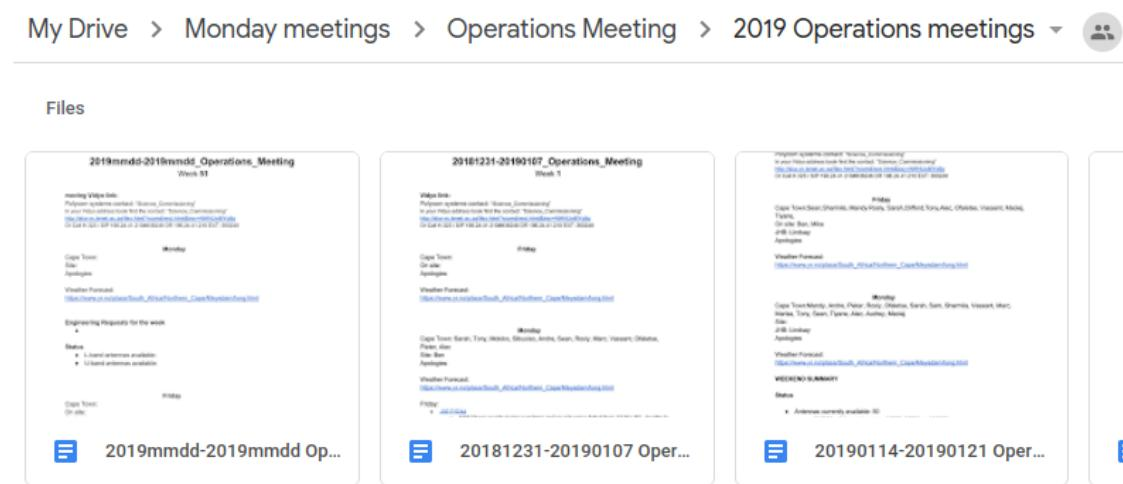

Figure 14.1: Operations meeting document google folder
- The name of the document is the current Monday date to the following Monday date as in **Figure 14.1**.